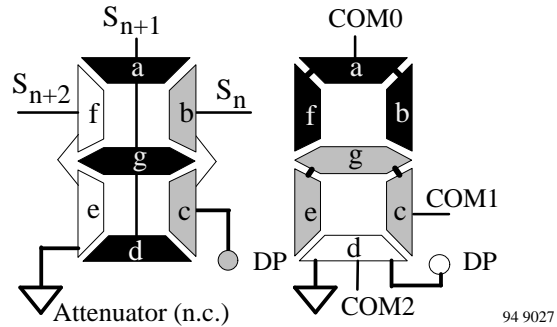

Figure 21. 3:1 multiplex 7 segment digit
- Switch on all segments of the leading 7 segment digit (including the attenuator, see figure 21) with a complete LCD display update.
Figure 21 shows the connection of a 3:1 multiplex 6 3/4 digit LCD panel having the numeric display pattern shown in figure 21, the segment outputs (S01-S20), and the backplane outputs (COM0-COM2).